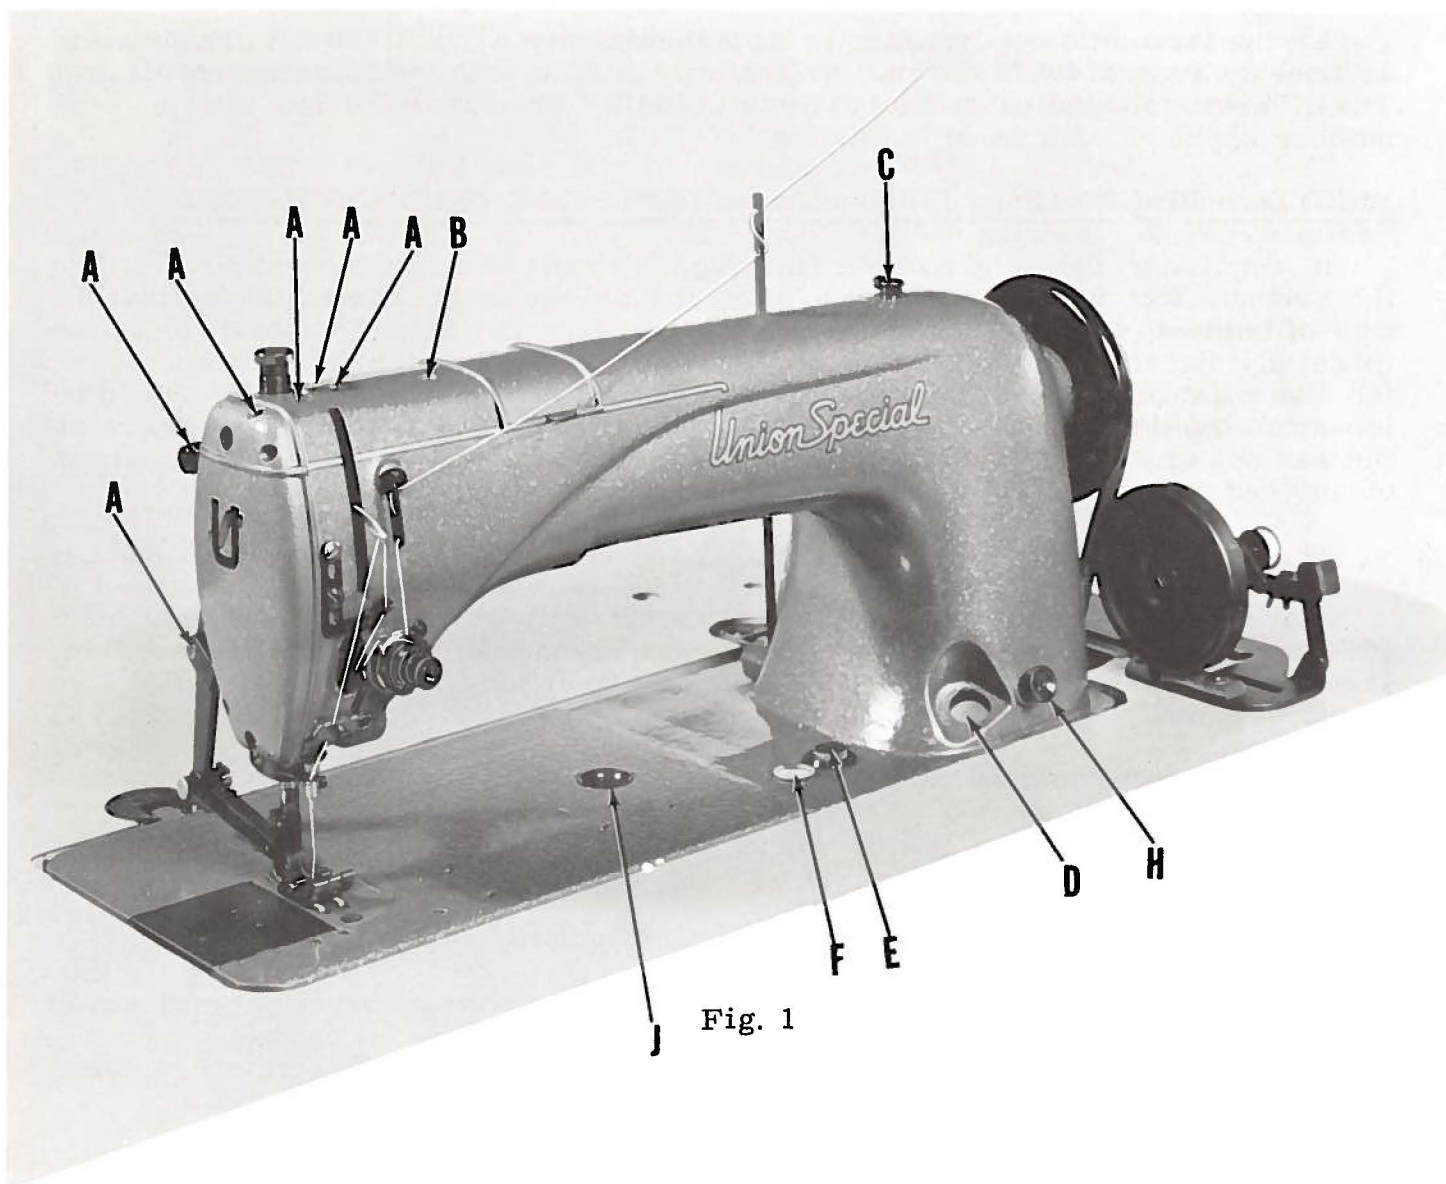

Fig. 1
Fill main reservoir through the oil cup (C, Fig. 1) in the top of the machine. This oil level should be checked from time to time and kept between the lines on the gauge (D) in front of the machine.
With the needle bar at the top of its stroke, oil holes (A and B, Fig. 1) in the top of the machine twice daily.
- (b) Press plunger (H, Fig. 1) in firmly.